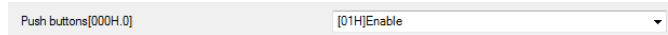

Figure 19
1. Push Button Settings: Select enable to activate “Push Button” functionality (Figure 19).